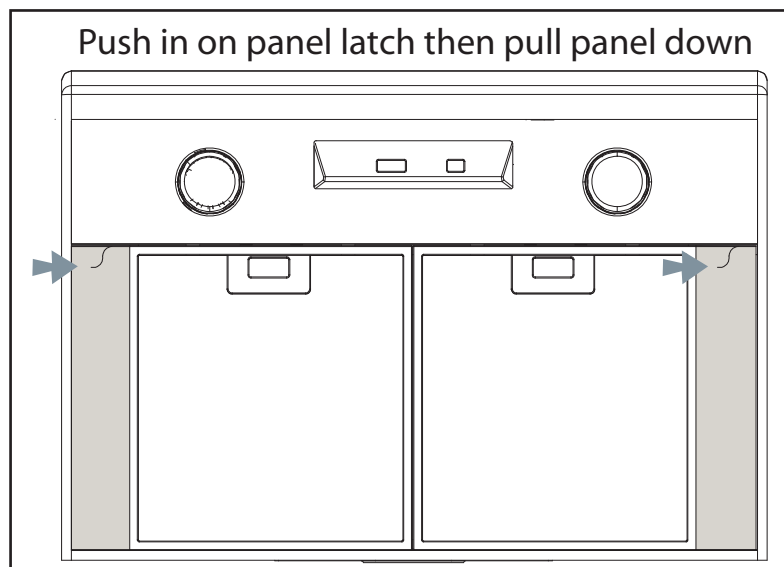

Fig 2
2. Begin installation by removing the filters (if installed) and side spacer panels (36" models only). (Fig 2)
6. Fasten hood onto cabinet with (4) M4 wood screws with washers provided.